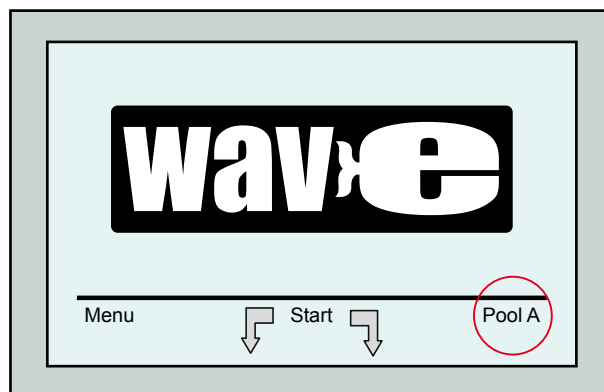

Figure 8: *Wave* screen showing Pool A as default setting
- Switch on the power supply. The MMI's Wave screen (figure 8) opens in the home window.
1. Go to the *Wave* screen. "Pool A" is displayed as the currently defined setting as shown in Figure 8.
1. From the *Wave* screen, press the currently displayed pool setting at the right side of the screen (see Figure 8) to open the *Pool Profile* screen.